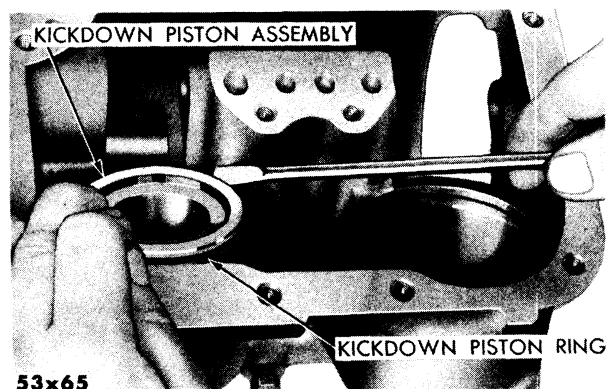

Fig. 103—Installation of Kickdown Piston Assembly
- (1) Coat the three kickdown piston rings with MOPAR Lubriplate (two locking and one open type) and install on piston. Lock into position and make sure they are free to rotate in lands.
- (2) Place kickdown piston assembly into transmission case, compress bottom ring with a piece of brass rod (with end flattened) and push piston into case. (Fig. 103.)